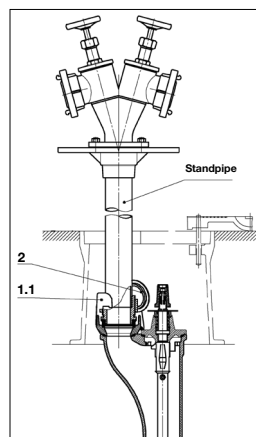

Figure 3
- Clean the claw (1.1) and claw cover (2).
- Remove and hold claw cover (2). If cover is plastic, place it next to street cap.
- The control of the extraction rate is only permissible via the valves installed on the standpipe (Fig. 3).